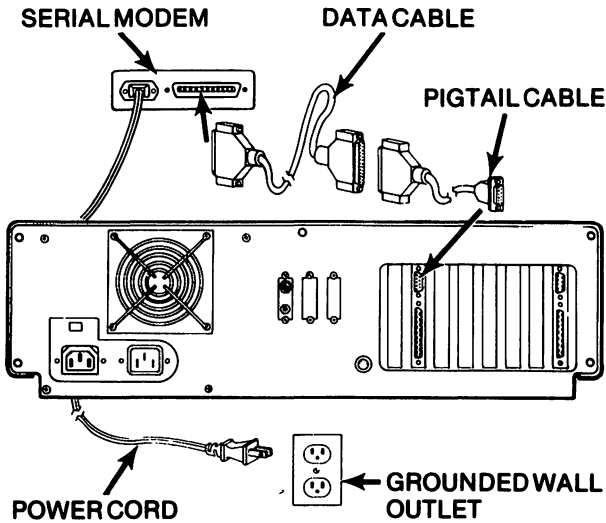

Figure 2-5
1. Connect the option's serial data cable to the pigtail cable supplied with your I/O card as shown in Figure 2-5.